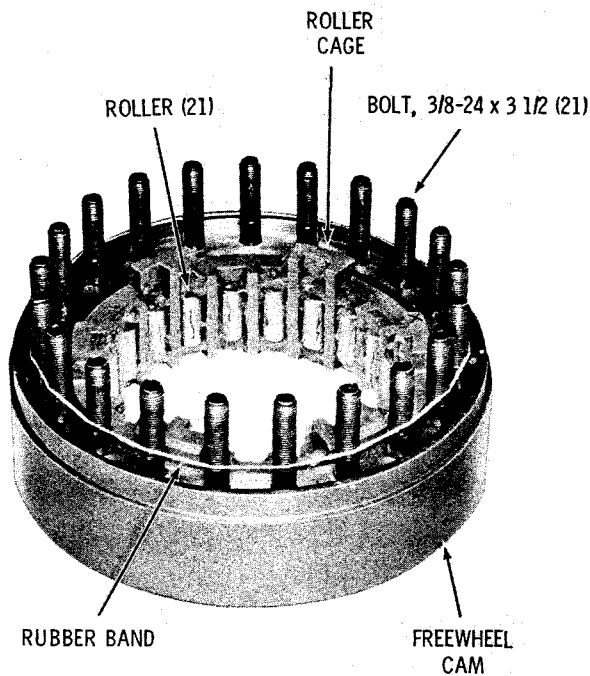

Fig. 6-16. Assembled freewheel cam, cage and rollers
(1) If bearings 1 and 10 were removed from gear 4 or shaft 8, install new bearings by pressing on the numbered side of the inner race until each is firmly seated.
(2) If bushing 5 (or 9) was removed, install a new one. Press it to 0.12-0.16 inch (3.0-4.1 mm) below the shaft end surface.
(3) Install the twenty-one bolts into the freewheel cam (fig. 6-16) and stretch a rubber band around the circle of bolts to retain them. Position the cam and bolts as shown in figure 6-16, and install the roller cage. Install the twenty-one rollers, using a sufficient amount of oil-soluble grease to retain them in the pockets. Install a suitable dummy race (table 4-1) to retain the rollers during subsequent assembly operations.
(4) Position the first turbine driven gear, hub upward, and install snapping 19 (A, foldout 4). Install the freewheel cam (as